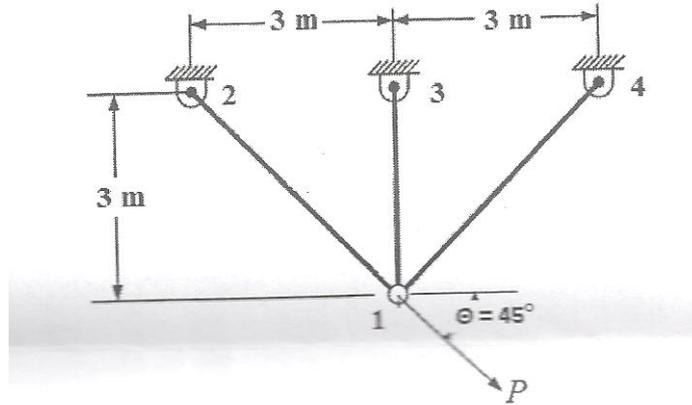

Figure 3a
- Q.3 A For the plane truss show in Figure 3a, determine the following. Each element has $E=70$ GPa, and area $A=200$ mm². $P=1$ kN. 8
- Assemble k matrices to get global stiffness matrix (K),